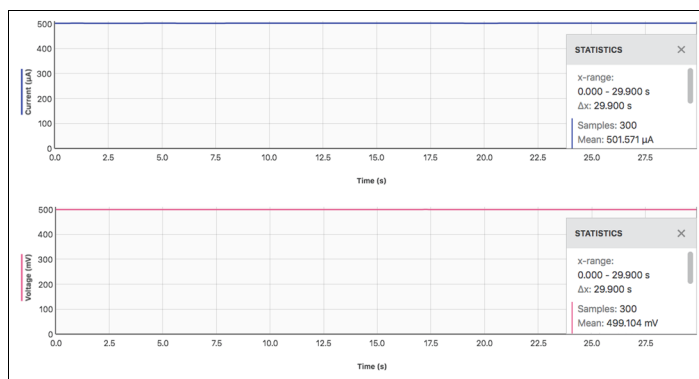

Figure 1
1. The experimental data showed that when 500 mV was applied, a 500  $\mu$ A response was measured, as shown in Figure 1.